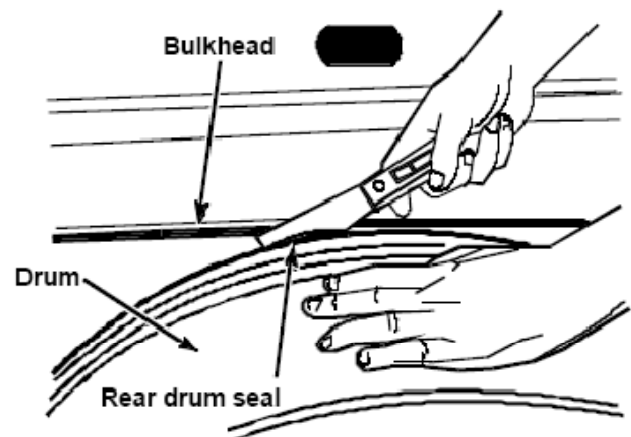

FIGURE 9
23. Place a small screwdriver or putty knife under the seal at the top of the bulkhead. Turn the drum by hand one full turn (counterclockwise), making sure the rear seal is riding on the bulkhead and not turned under. See Figure 9.